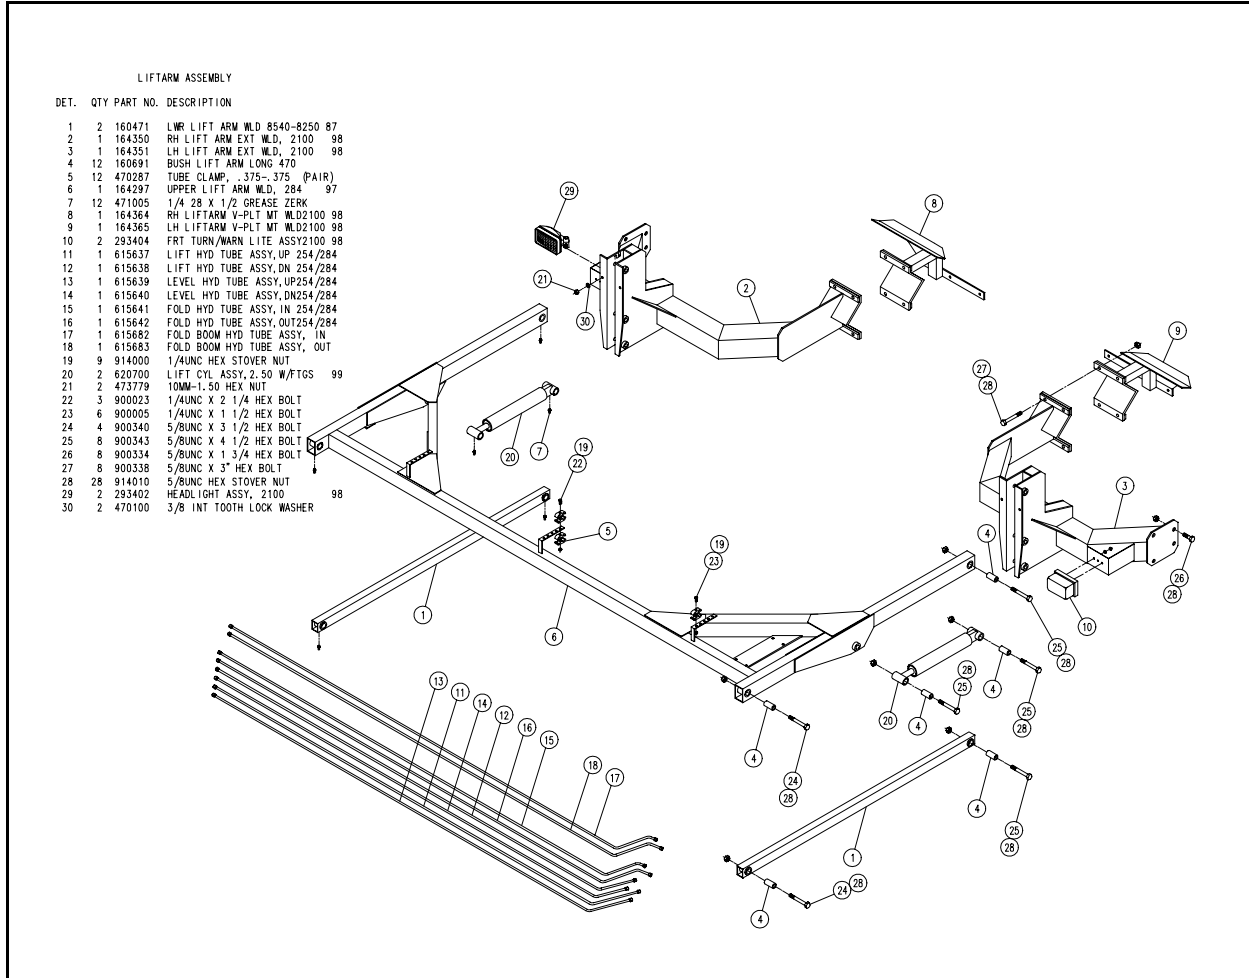

FIG 4.7
1. First, attach right hand (fig. 4.7, items 2 & 8) and left hand (fig. 4.7, items 3 & 9) lift arm mounts and tighten all bolts.
2. Install upper lift arm weldment (fig. 4.7, item 6) to lift arm mounts using proper bushings and bolts provided.
3. Install two lift cylinders (fig. 4.7, item 20), using correct bushings and bolts.
4. After installing the lift cylinders, install two lower lift arm weldments (fig. 4.7, item 1), using correct bushings and bolts.